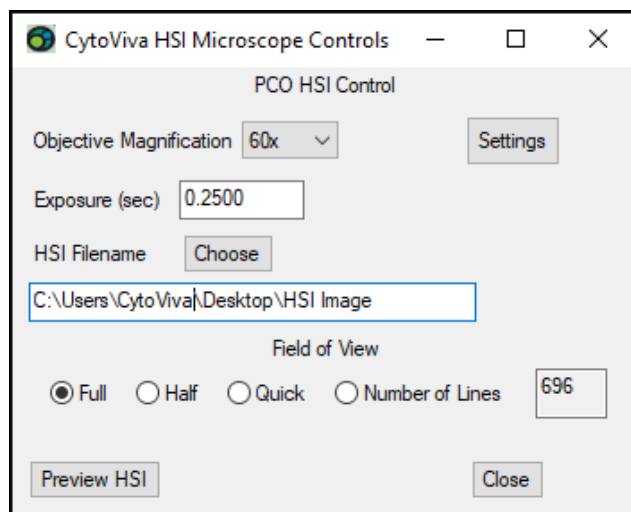

Figure 2.1b
- The CytoViva HSI Microscope Controls GUI will open (Figure 2.1b).